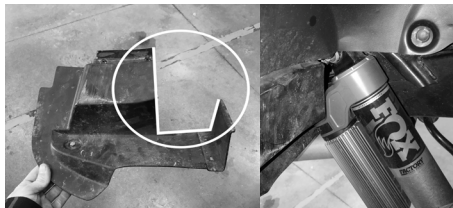

Figure 16: Recommended cut line. Passenger side shown
4. Minor fender liner trimming may be required for proper installation. See figure 16 for recommended trimming.
5. Reusing the OEM hardware, install the new FOX shock with the reservoir pointing towards the rear and angled outwards (Fig 16). Torque to OEM specifications.